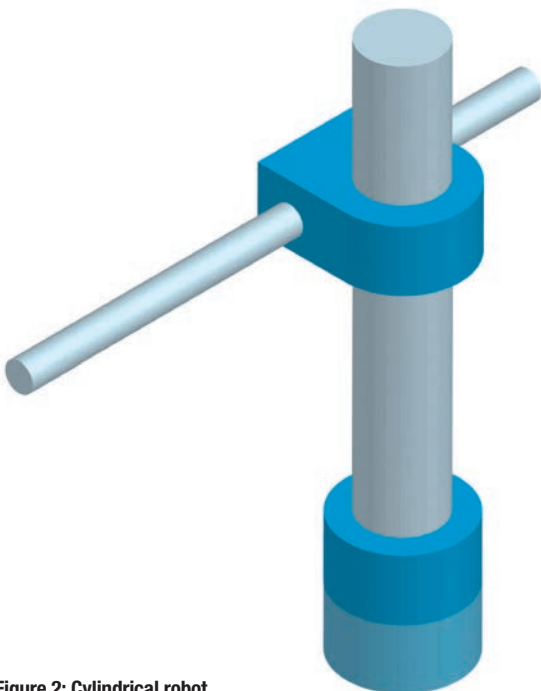

Figure 2: Cylindrical robot
- A cylindrical robot (Figure 2) provides motion along two linear axes, and rotational motion around one of them. This type is widely found in spot welding, handling tools or assembly work.